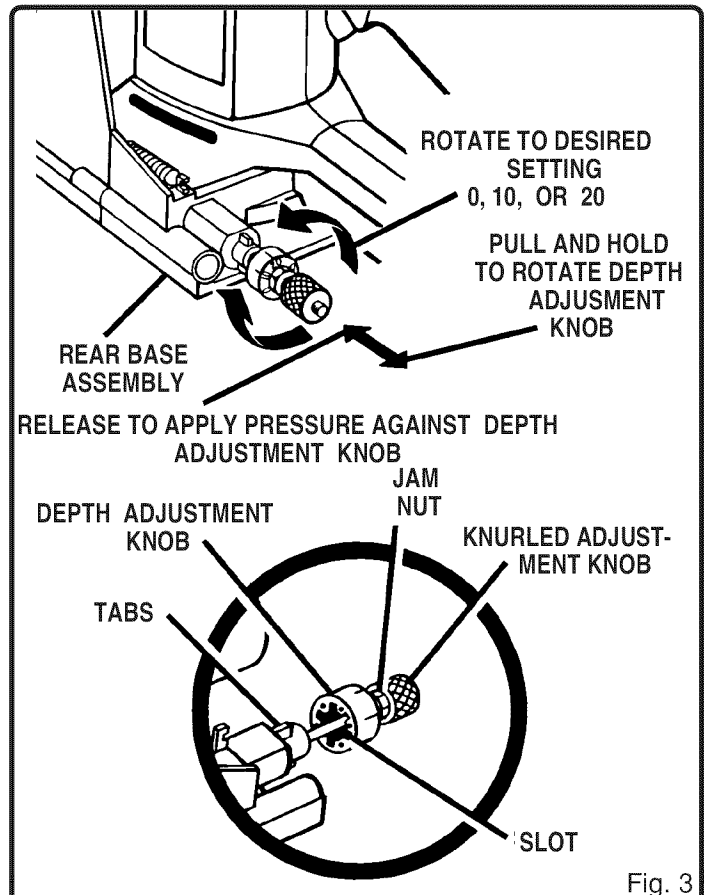

Fig. 3
Your plate joiner can be adjusted to three standard cutting depths to accommodate three standard size biscuits — #0, #10, and #20. Adjustments are made by engaging slots on depth adjustment knob with tabs on rear base assembly. For example, when using a #0 size biscuit, rotate the depth adjustment knob to the slot marked 0. When using a #10 size biscuit, rotate the depth adjustment knob to the slot marked 10, and when using a #20 size biscuit rotate the depth adjustment knob to the slot marked 20. See Figure 3.
- Pull knurled adjustment knob and jam nut in the direction of the arrow shown in figure 3.